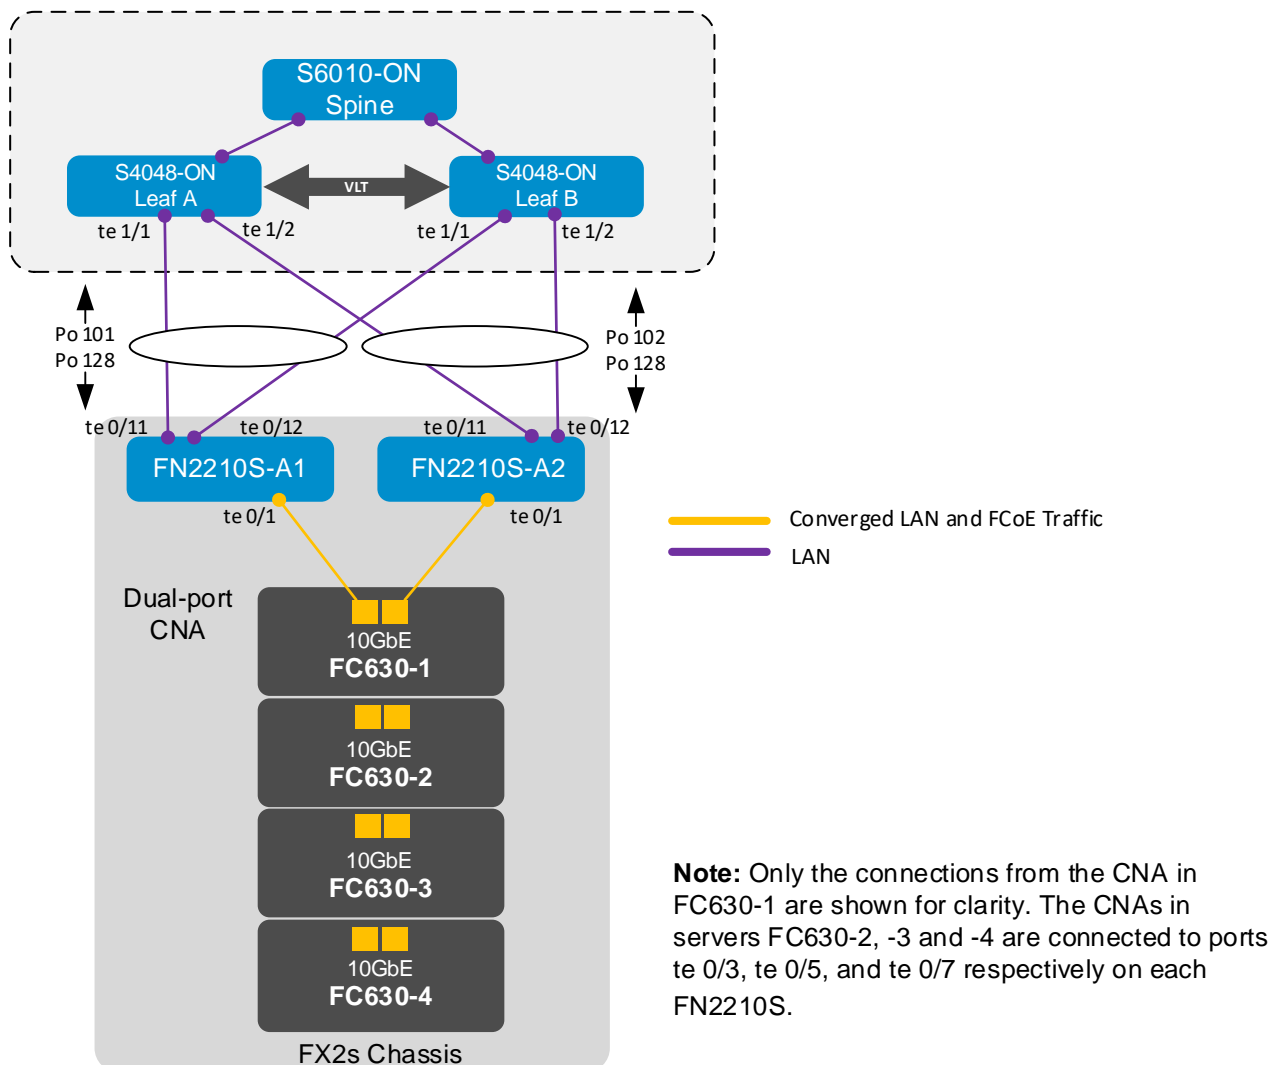

Figure 11 LAN topology – production network
The LAN topology for the production network includes the converged connections and leaf-spine network connections for TCP/IP traffic as shown in Figure 11.
**Note:** Using a leaf-spine network in the datacenter as shown in Figure 11 is considered a best practice. Configuration of the S6010-ON spine switch is outside the scope of this document. See the Dell EMC Leaf-Spine Deployment and Best Practices Guide for a detailed description and configuration instructions for a leaf-spine network.